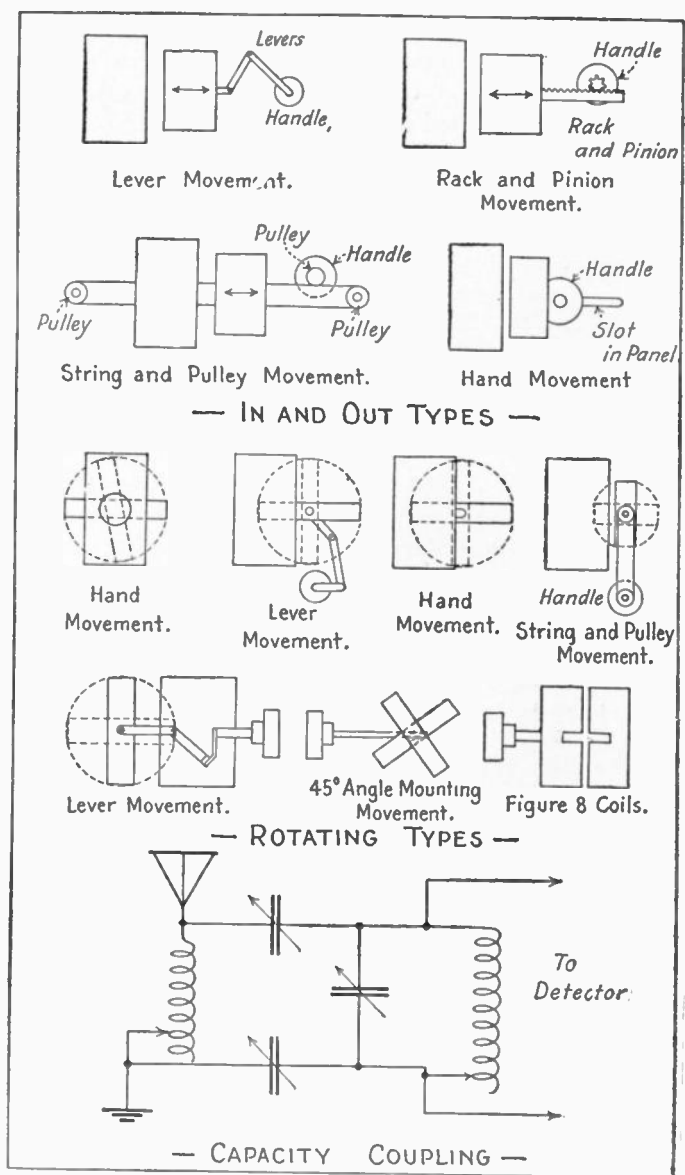

Fig. 8.—Various Ways in which the Coupling between Two Coils can be Varied.
Various methods of effecting the movement are given in Fig. 8.
**B. Rotating Types.** A number of ways to vary inductance by rotating one coil are given in Fig. 8. The coils can be wound on cylindrical or spherical forms. They can be separated considerably at maximum coupling, for very tight coupling is not essential. The coefficient of coupling need not exceed 5%.
**A. Variation of mutual inductance.** Any of the methods in Fig. 8, except the capacity coupling, can be employed by connecting the coils in series or parallel. Resulting effective inductance is given by the formulas in Section 5. It is necessary to have the coils as close together as possible in order to obtain a large variation. When the planes of the windings are at right angles, the mutual inductance is 0.